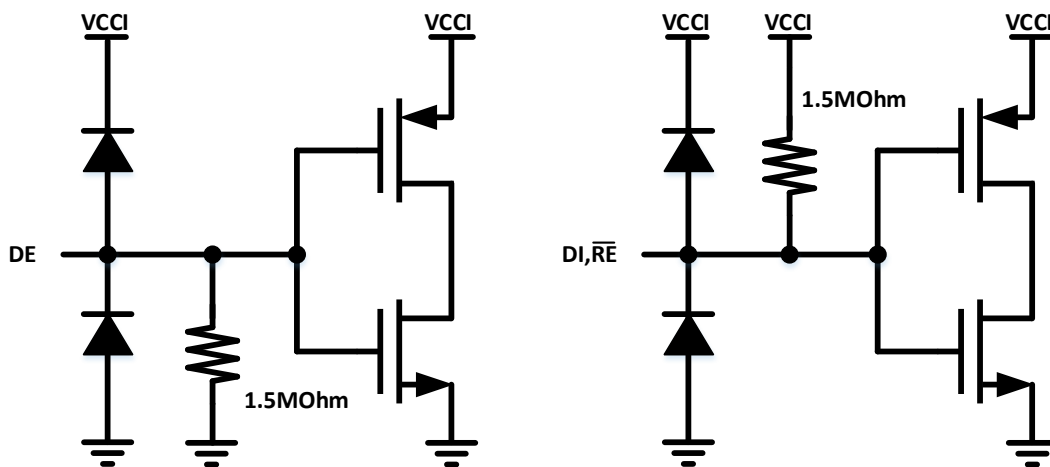

Figure 9-1. Input equivalent circuit
The CA-IS2092x devices include three logic inputs on the logic side: receiver enable, driver enable and driver digital input. The driver enable control DE pin has an internal weak pull-down to GNDA, while the digital input DI and receiver enable pins have an internal pull-up to V_{CC}/V_{CCL} , see Figure 9-1 the input equivalent circuit.
The transmitter converts a single-ended input signal (DI) from the local controller to differential outputs on the bus lines A and B. The truth table for the transmitter is provided in Table 9-2, the driver enable control DE pin has an internal weak pull-down to GNDA, see Figure 9-1 the input equivalent circuit; while the digital input DI pin has an internal pull-up to V_{CC} for CA-IS2092W or V_{CCL} for CA-IS2092VW. The driver outputs and receiver inputs on the bus side are protected from $\pm 20kV$ electrostatic discharge (ESD) to GNDB, as specified by the Human Body Model (HBM). The driver outputs also feature short-circuit protection and thermal shutdown.